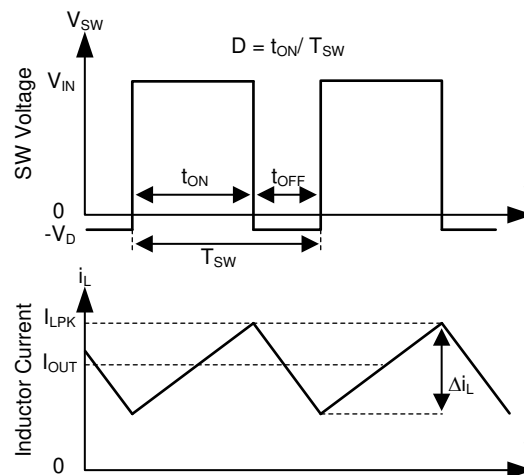

Figure 10-2. SW Node and Inductor Current Waveforms in Continuous Conduction Mode (CCM)
The following operating description of the TPS2586x-Q1 refers to the Functional Block Diagram. The TPS2586x-Q1 integrates a monolithic, synchronous, rectified, step-down, switch-mode converter with internal power MOSFETs and USB current-limit switches with charging ports auto-detection. The TPS2586x-Q1 offers a compact solution that achieves up to 6.6 A of continuous output current with excellent load and line regulation over a wide input supply range. The TPS2586x-Q1 supplies a regulated output voltage by turning on the high-side (HS) and low-side (LS) NMOS switches with controlled duty cycle. During high-side switch ON time, the SW pin voltage swings up to approximately V_{IN} . The inductor current i_L increases with linear slope $(V_{IN} - V_{OUT}) / L$. When the HS switch is turned off by the control logic, the LS switch is turned on after an anti-shoot-through dead time. Inductor current discharges through the LS switch with a slope of $-V_{OUT} / L$. The control parameter of a buck converter is defined as Duty Cycle $D = t_{ON} / T_{SW}$, where t_{ON} is the high-side switch ON time and T_{SW} is the switching period, shown in Figure 10-2. The regulator control loop maintains a constant output voltage by adjusting the duty cycle D . In an ideal buck converter, where losses are ignored, D is proportional to the output voltage and inversely proportional to the input voltage: $D = V_{OUT} / V_{IN}$.